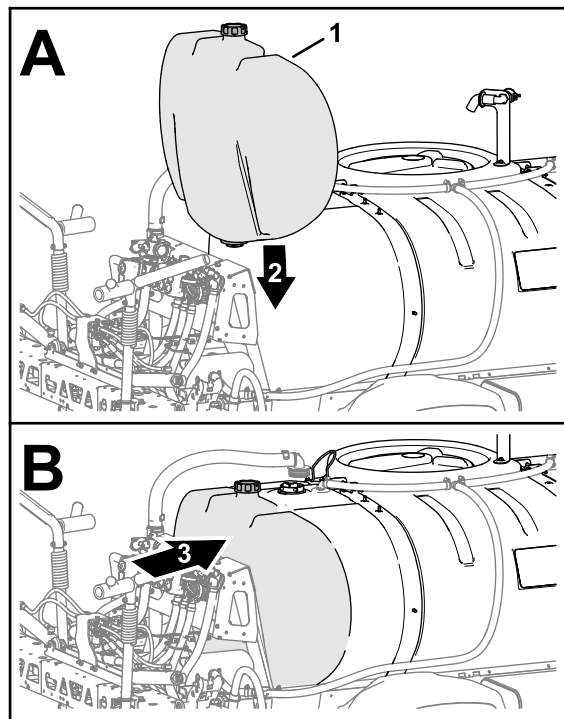

Figure 12
4. If your machine has the optional rinse tank kit installed, align the tank to the machine as shown in figure (Figure 12).